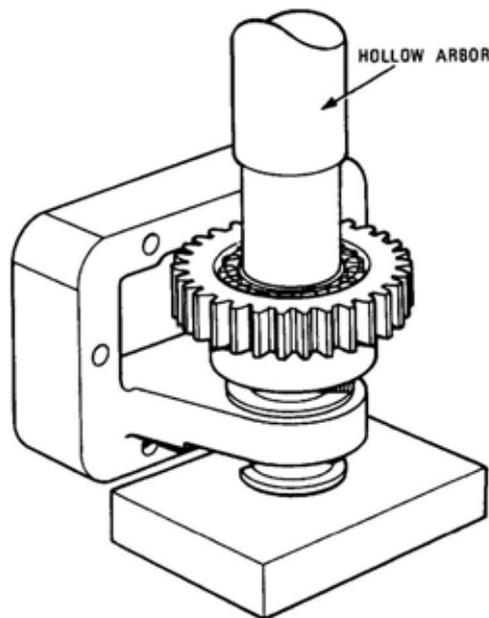

Figure 15 Installing the Shaft, Gear and Bearings
- c. Place the adaptor housing and shaft in the press, then position the gear, the spacer and the outer bearing cone on the shaft and press the bearings and gear onto the shaft. Ensure that the flat on the shaft flange is correctly aligned and that the bearings are seated firmly against the spacers (Figure 15).